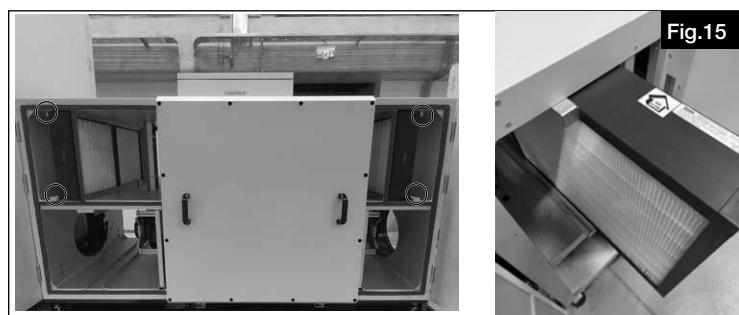

Fig.15
2. Remove the screws from the filter rails, set the filter rails to the left and fasten in the in the threaded rivets (see Fig.15).